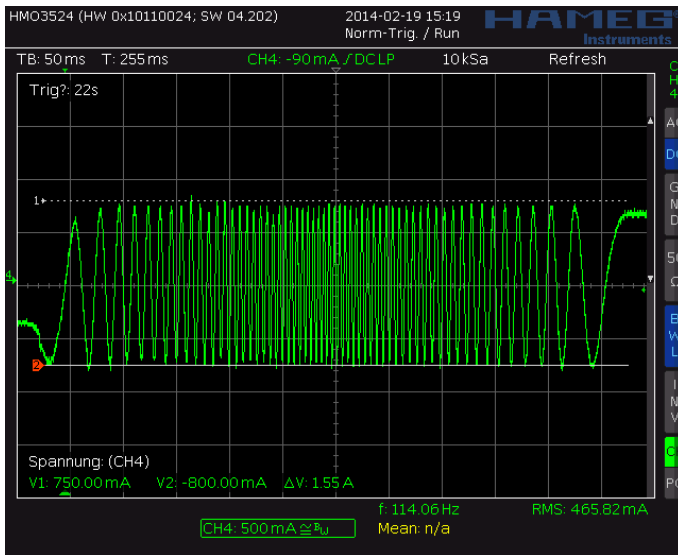
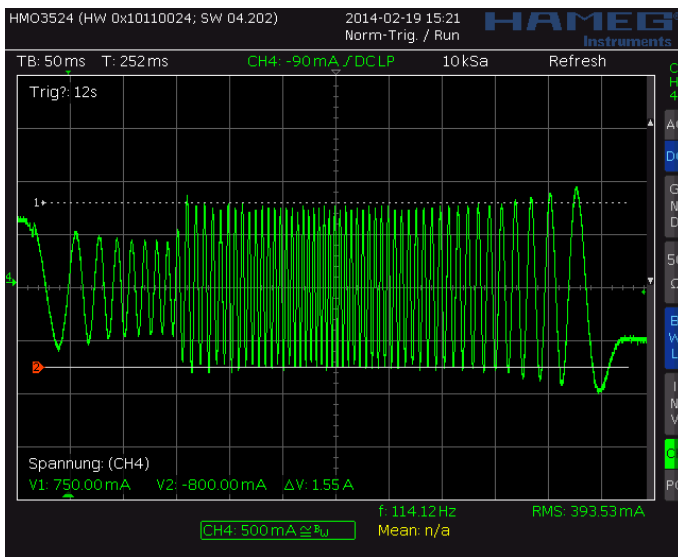
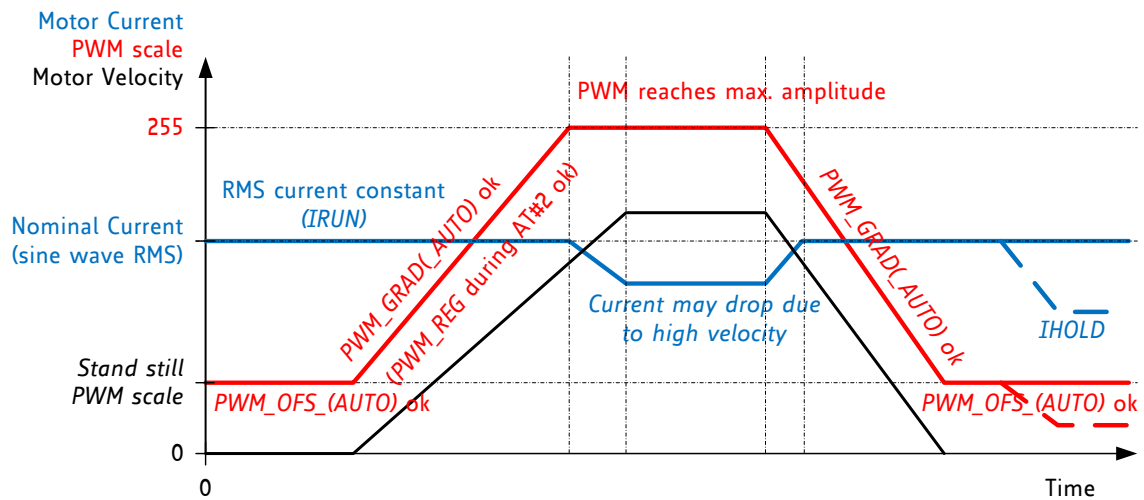

Figure 7.3 Scope shot: good setting for PWM_REG
Figure 7.4 Scope shot: too small setting for PWM_REG during AT#2
Figure 7.5 Successfully determined PWM_GRAD(AUTO) and PWM_OFs(AUTO)
In stealthChop voltage PWM mode, the autoscaling function (*pwm_autoscale* = 1, *pwm_autograd* = 1) regulates the motor current to the desired current setting. Automatic scaling is used as part of the automatic tuning process (AT), and for subsequent tracking of changes within the motor parameters. The driver measures the motor current during the chopper on time and uses a proportional regulator to regulate *PWM_SCALE_AUTO* in order match the motor current to the target current. *PWM_REG* is the proportionality coefficient for this regulator. Basically, the proportionality coefficient should be as small as possible in order to get a stable and soft regulation behavior, but it must be large enough to allow the driver to quickly react to changes caused by variation of the motor target current (e.g. change of *VREF*). During initial tuning step AT#2, *PWM_REG* also compensates for the change of motor velocity. Therefore, a high acceleration during AT#2 will require a higher setting of *PWM_REG*. With careful selection of homing velocity and acceleration, a minimum setting of the regulation gradient often is sufficient (*PWM_REG*=1). *PWM_REG* setting should be optimized for the fastest required acceleration and deceleration ramp (compare Figure 7.3 and Figure 7.4). The quality of the setting *PWM_REG* in phase AT#2 and the finished automatic tuning procedure (or non-automatic settings for *PWM_OFS* and *PWM_GRAD*) can be examined when monitoring motor current during an acceleration phase Figure 7.5.